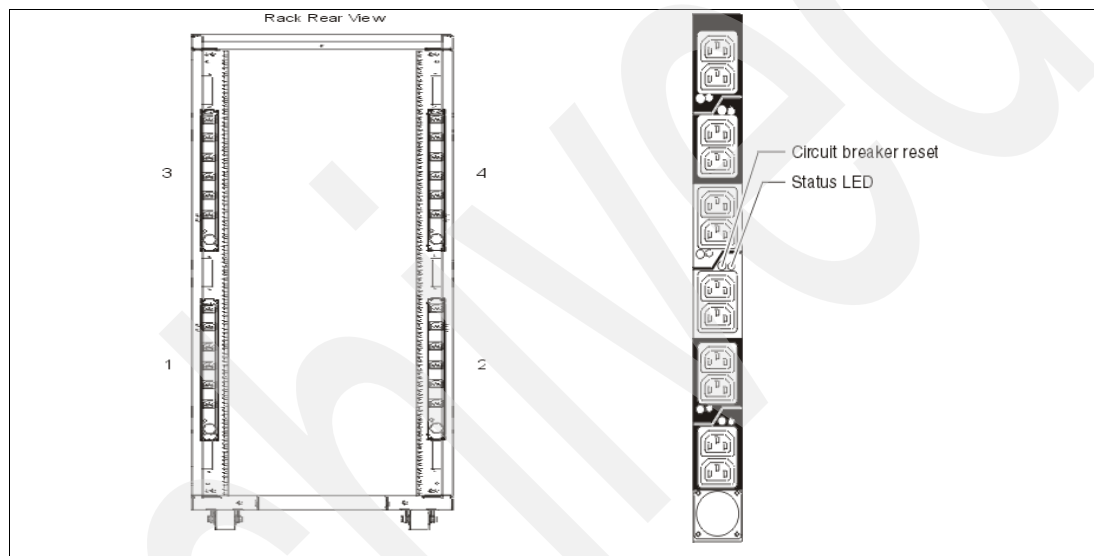

Figure 1-3 PDU placement and PDU view
- ▶ Up to four power distribution units (PDUs) can be mounted in the PDU bays (see Figure 1-3 on page 13), but others can fit inside the rack. See 1.6.6, "The ac power distribution unit and rack content" on page 12.
Four PDUs can be mounted vertically in the T00 and T42 racks. Figure 1-3 on page 13 shows the placement of the four vertically mounted PDUs. In the rear of the rack, two additional PDUs can be installed horizontally in the T00 rack and three in the T42 rack. The four vertical mounting locations are filled first in the T00 and T42 racks. Mounting PDUs horizontally consumes 1U per PDU and reduces the space available for other racked components. When mounting PDUs horizontally, we recommend that you use fillers in the EIA units that are occupied by these PDUs to facilitate proper air-flow and ventilation in the rack.